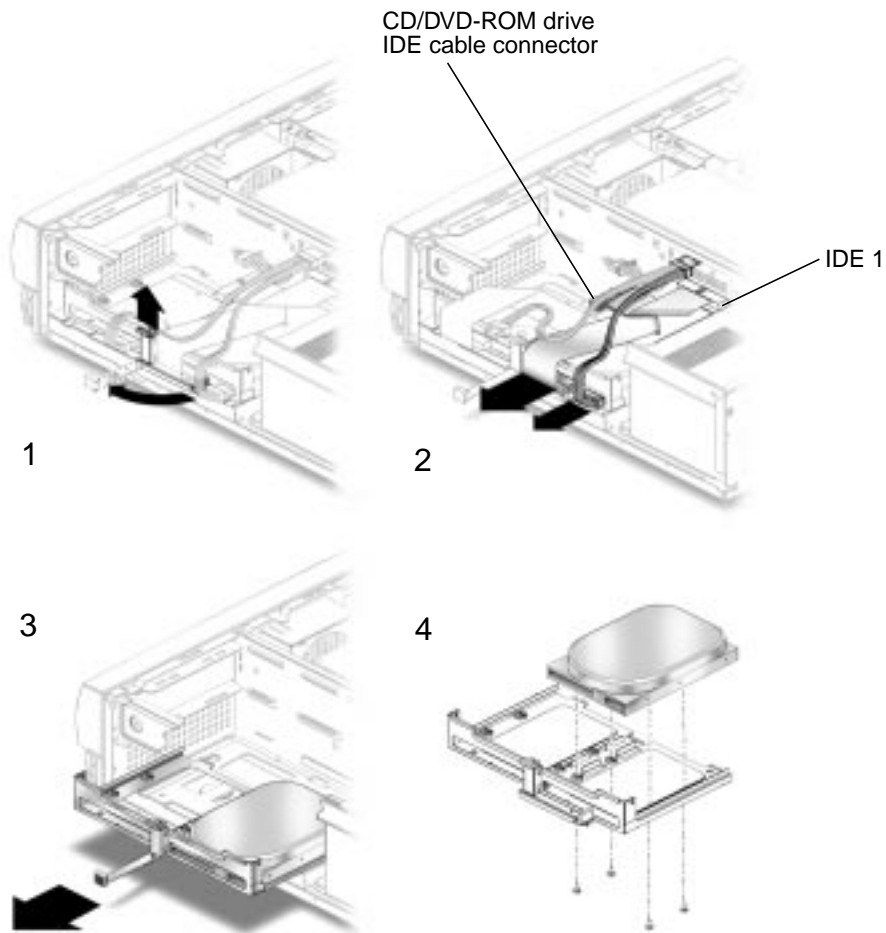

FIGURE 7-3 Removing and Replacing a Primary Hard Drive
2. Lift the spring-loaded latch upward to release the hard drive tray from the chassis (FIGURE 7-3).
4. Disconnect the hard drive IDE cable and the power cable connectors from both hard drives (if two drives are installed). Move the cables out of the way (FIGURE 7-3).
1. **Position the hard drive into the hard drive tray (FIGURE 7-3).**